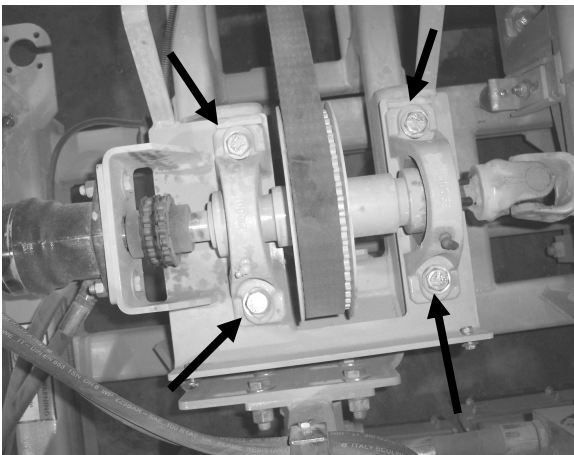
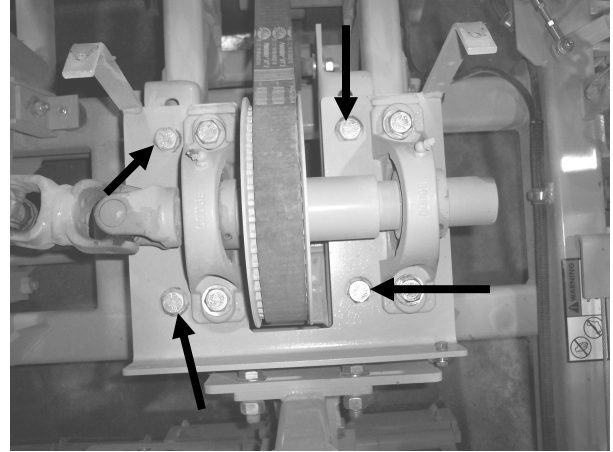

Figure 4—Right Side Cutter Head
Figure 5—Left Side Cutter Head
3. Remove the cutter head mounting bolts. See **Figure 4** and **Figure 5**. Maintain some tension on the cutter head belts as necessary to prevent the belts from slipping on the pulleys.